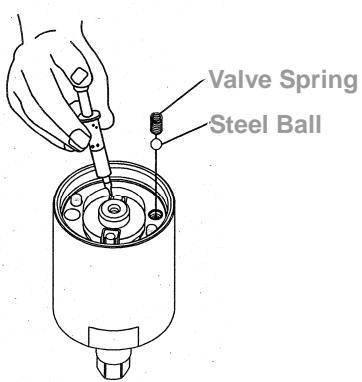
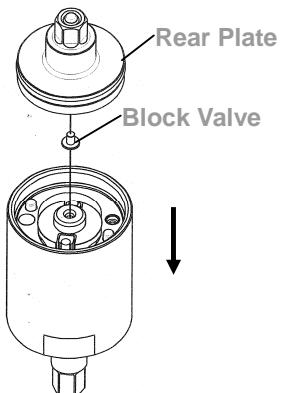

Fig. 290
Fig. 291
- ③ Fill up the interior pulse cylinder with the pulse oil about 90% full by an injector. Put the steel ball and the valve spring into the hole on the pulse cylinder in order. (Fig. 290)
- ④ Put the block valve into the rear plate taken out at Step 2, and then install the rear plate to the pulse cylinder.
- Make sure the positions of the pins and the holes are exactly matched. (Fig. 291)
- ⑤ Turn the assembled unit up side down so the rear plate is at the bottom. Then press the pulse cylinder seat all the way down to the fixed position. Make sure the corresponding positions are matched exactly.